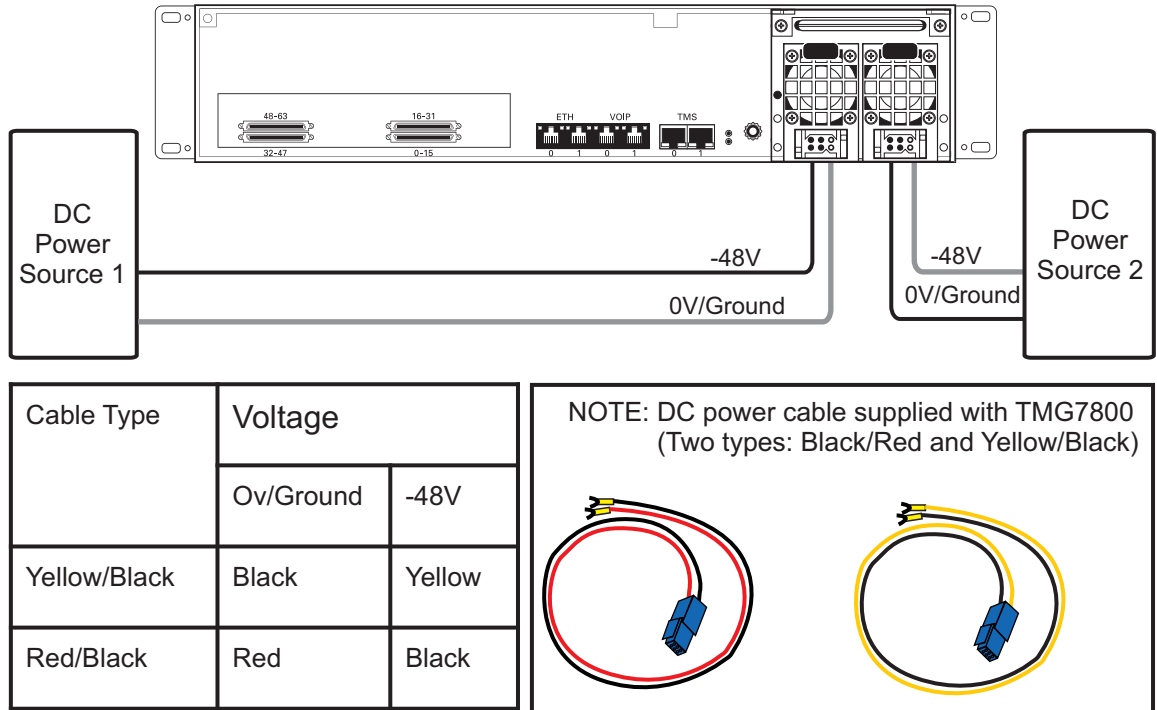

Figure 2.31 DC Power Connection
1. Connect one DC cable, supplied with the TMG7800 Telecom Unit, as shown in figure 2.31 on page 40, to the DC outlet at the rear of the TMG7800 Telecom Unit.
Note Two types of cable with different coloring are available. Refer to figure 2.31 on page 40 for the appropriate wiring information.